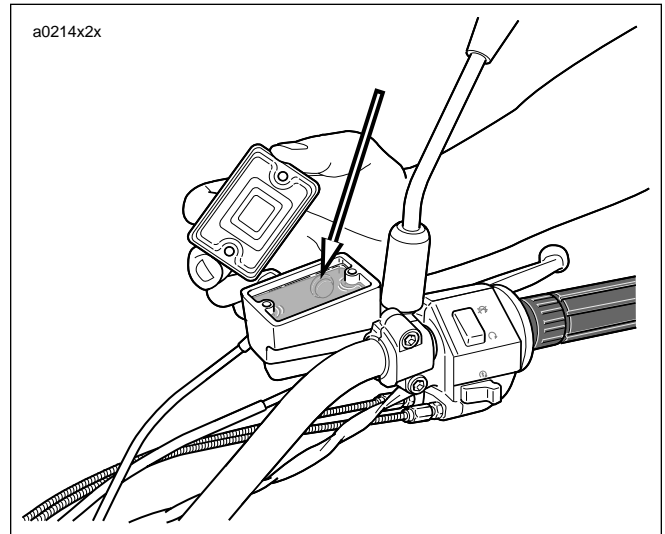

Figure 2-37. Brake Fluid Level
6. See Figure 2-37. With the master cylinder in a level position, add **D.O.T. 4 BRAKE FLUID**. Bring fluid level to within 0.125 in. (3.2 mm) of molded boss inside front master cylinder reservoir.
7. See Figure 2-37. Verify proper operation of the master cylinder relief port.